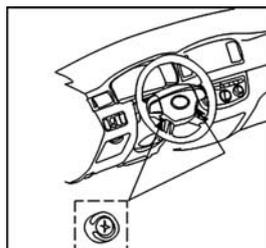

Fig. 2-26
2) Loosen the two bolts with socket wrench or screwdriver until the bolt head is locked into the bolt housing, as shown in Fig. 2-26.